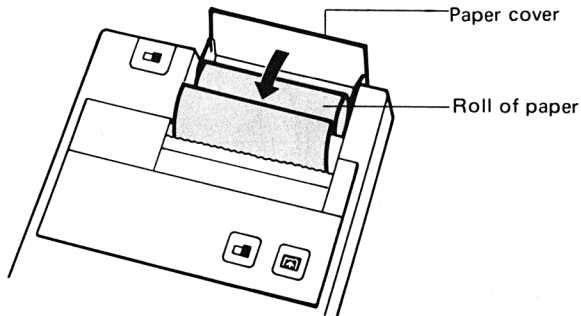

Fig. 5
- (5) Install the roll into the compartment.
- (6) Close the paper cover. (Fig. 5)